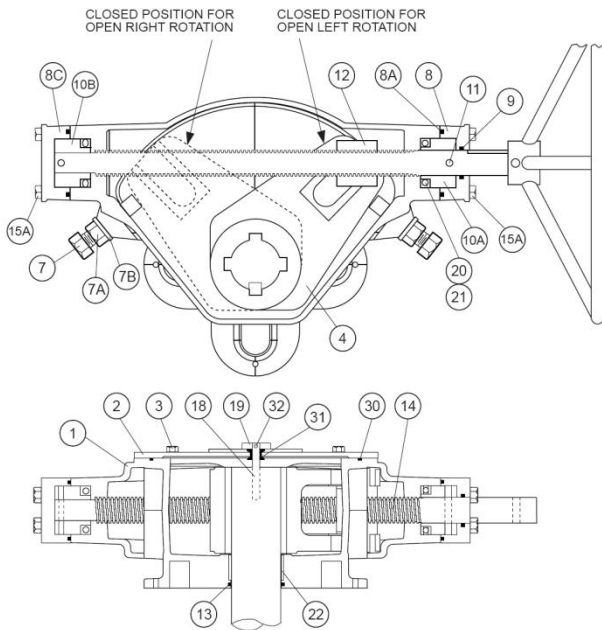

FIGURE 11. TRAVELING NUT ACTUATOR
TRAVELING NUT ACTUATOR MAINTENANCE: A typical traveling nut actuator is shown in Figure 11 and consists of a threaded nut (12) which travels back and forth on a threaded stem (14). The stem is lubricated with EP2 grease in a cast iron housing (1). The nut, in turn, drives a slotted lever (4) through 90 degrees of travel. The lever (4) drives the valve shaft with a square key. The rotation of the shaft is displayed by the top indicator (19). The full open and closed positions are controlled by the stop nuts (6). The stop nuts can be adjusted by pounding out the pin (7) with a drift punch and rotating the stop nut ½ turn. The gear box is factory lubricated and sealed. No regular maintenance is required. If difficult operation is observed, the cover can be removed and the unit inspected for wear. All moving parts should be coated with grease. The grease should have an even and smooth consistency. If needed, coat all moving parts with an EP-2 grease such as Mobil Mobilux EP2. Buried units should be packed 100% with grease.